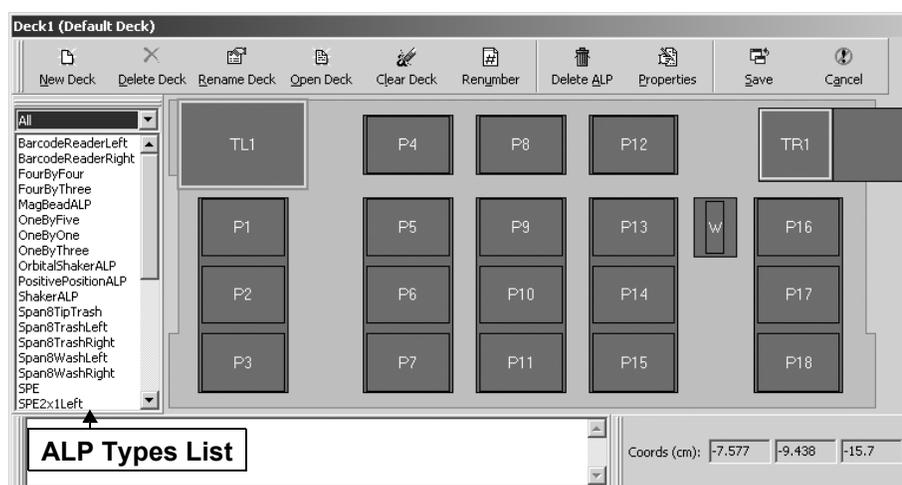

Figure 3-12. Deck Editor
1. Choose **Instrument>Deck Editor**. Deck Editor appears (Figure 3-12).